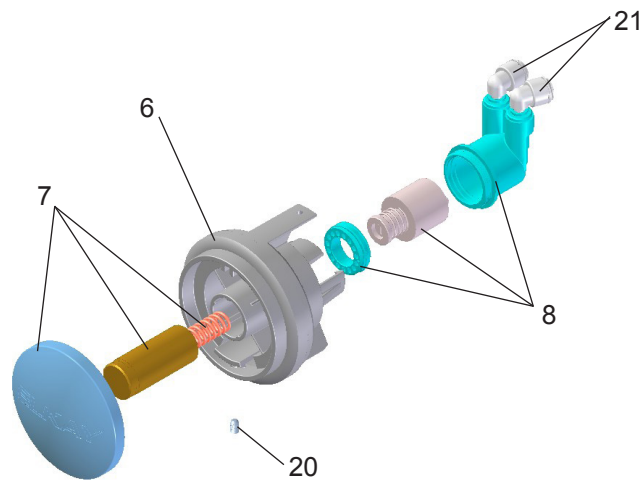

Figure 9 - Push Button Assembly
14. **Check** stream height from bubbler. Stream height is factory set for 35 PSI supply. If supply pressure varies greatly from this, remove push button (Item 7 - Figure 9) and adjust the screw on the regulator (Item 8 - Figure 9). To remove push button, remove setscrew from bottom of sleeve (Item 6). Insert a small punch in screw hole and push up while grasping the push button and pull forward removing the push button. Clockwise adjustment will raise stream height and counterclockwise movement will lower stream height. For best adjustment stream should hit basin approximately 6-1/2" from the bubbler. Reassemble the push button by pushing in on button until the push button catches in the sleeve. Reinstall the setscrew (Item 24) in the sleeve (Item 6).